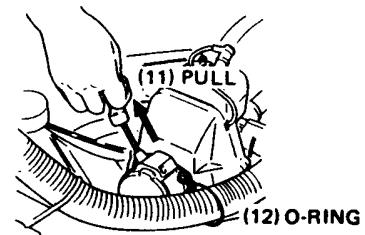

Fig. 18
- Pull the recoil starter upwards briskly several times or until engine attempts to start. Pull down choke lever to "RUN" position and continue to pull until engine starts. (Fig. 18)